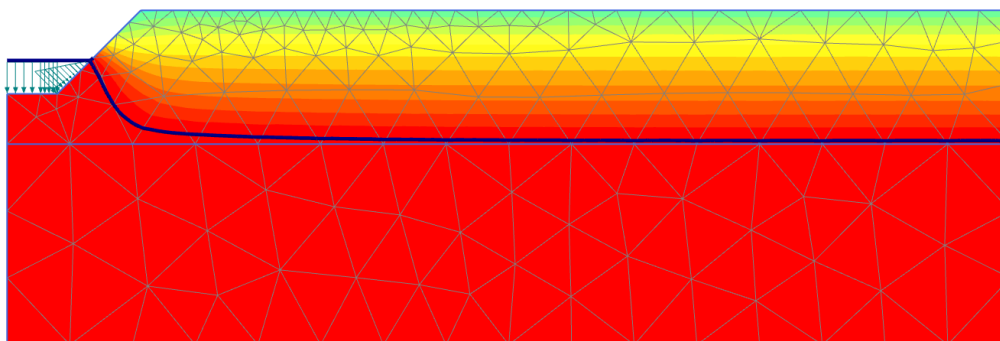

Figure 171: Saturation field at day 15
3. Figure 171 (on page 195) shows the spatial distribution of the saturation for the last time step.